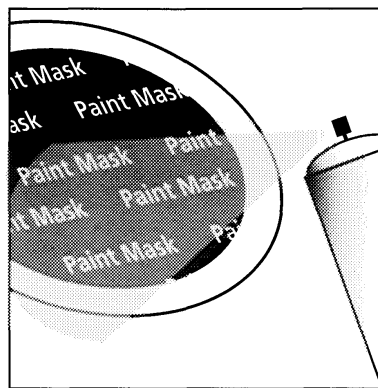

FIGURE 3
2. When painting the frame of the speaker, use the supplied paint mask to carefully mask off the front of the speaker to protect the driver and baffle while painting. You can do this while the speaker is already installed in the wall (if, for instance, you're repainting the room). If you do not have the paint masks, carefully mask the speaker components using paper and masking tape. [Figure 3]